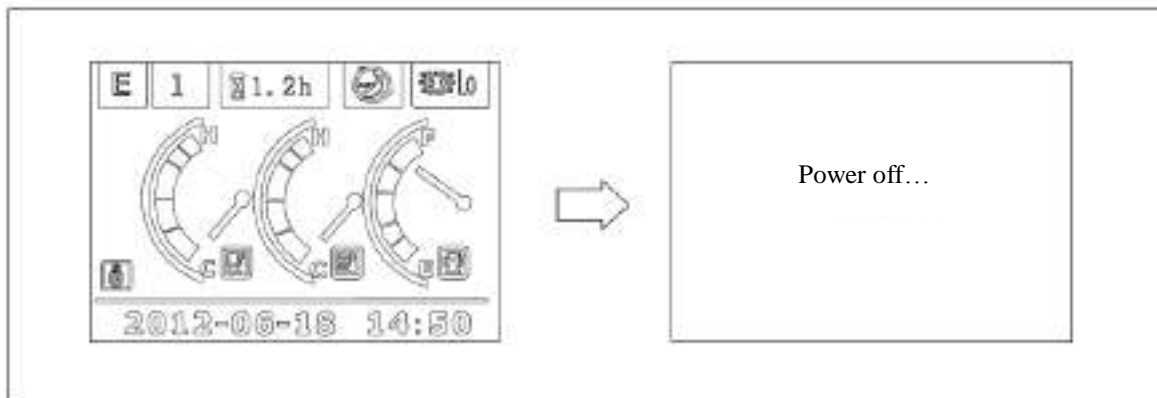

Figure 3-36 Menu for shutting down the instrument
b) Shutdown of the instrument: turn the key switch to OFF position, the display is power-off and turns into black screen, as shown in Figure 3-36.